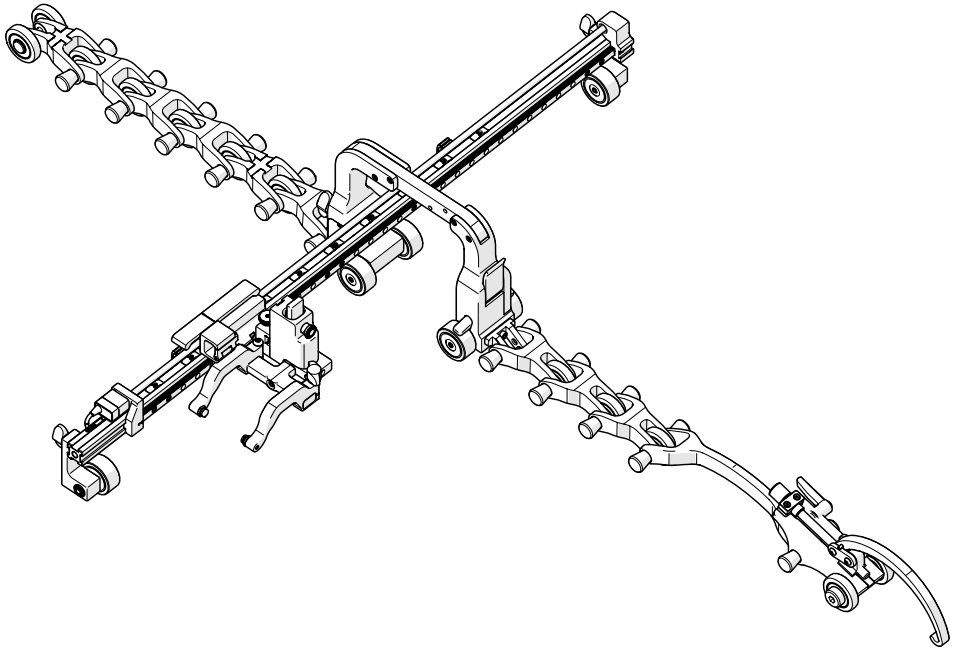

Fig. 84 - Assemble configuration
3. On a flat surface, connect the appropriate number of links (see *Chain Connection on page 17*) as indicated on the **ROTIX** setup chart. Arrange the link setup with the buckle and catch link 180° opposite the corrosion link (Fig. 84).